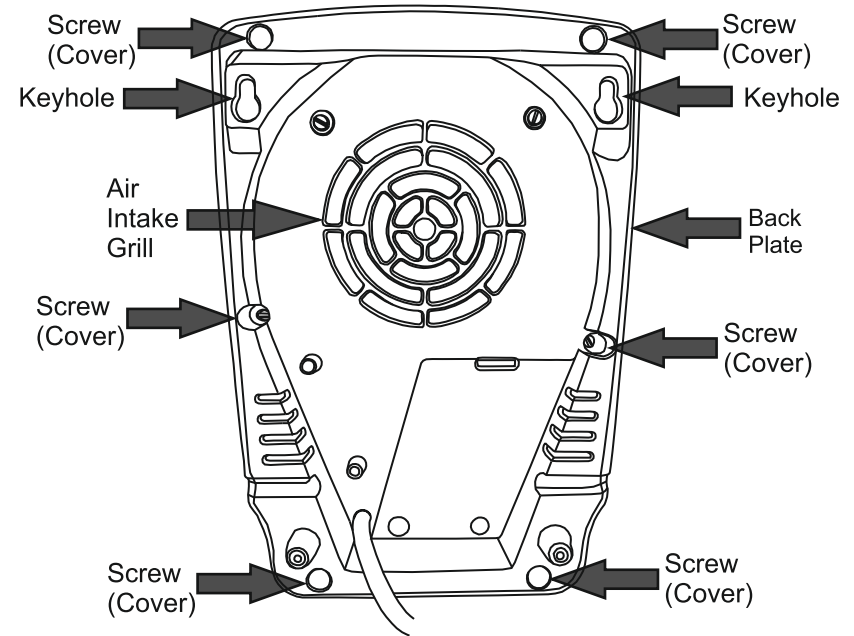

Fig.1
- 5) With help of keyholes on the back plate of the hand dryer (Refer Fig. 1), hang the hand dryer on the wall.
- 2) Remove the hand dryer from the wall and place it on a table with the back plate facing upwards as shown in Fig. 1.